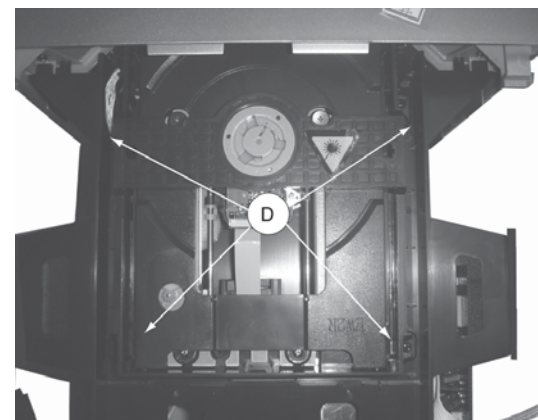

Figure 4
- 3) Loosen the 4 screws at DVD loader as Figure 4.